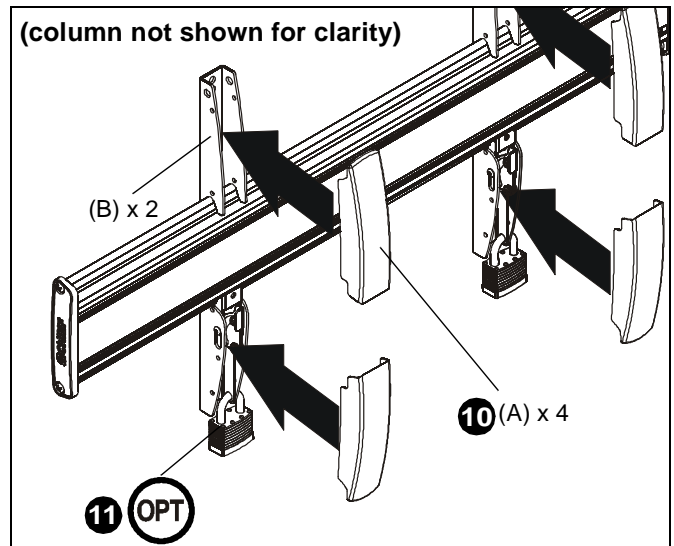

Figure 12
10. Snap four upright covers (A) onto uprights. (See Figure 12)
11. (Optional) Use padlocks (not provided) to secure uprights to head assembly. (See Figure 12)